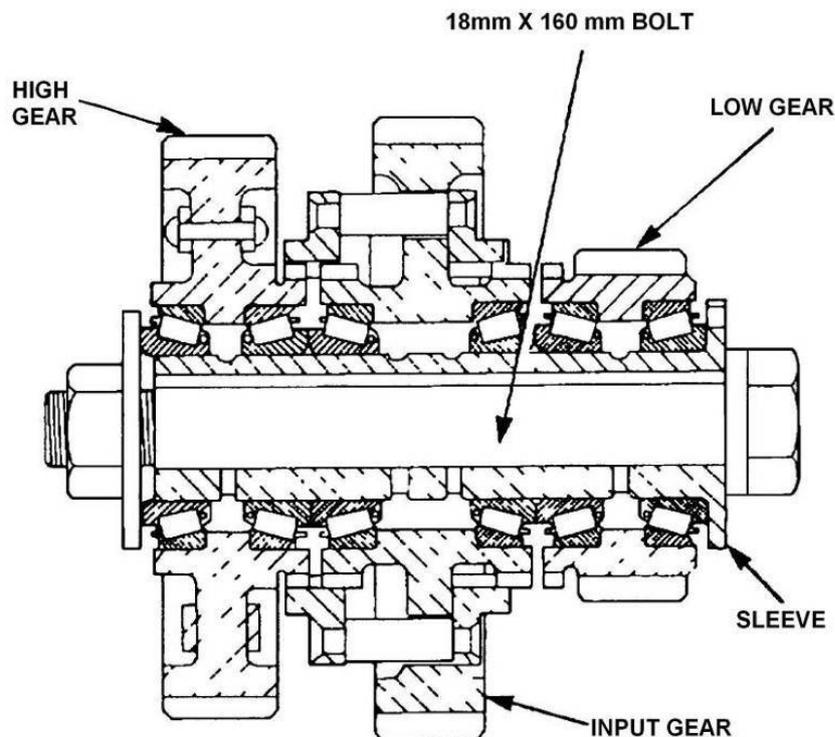

Figure 213 Intermediate Gear Assembly Pre-load Adjustment - Sectional View
- h. Using a suitable press, install the bearing cups in the intermediate gears. Thoroughly lubricate the gears and taper roller bearings with clean oil and install the gears and bearings on the sleeve. Do not fit the shim washer at this stage. Using an 18 mm bolt and large flat washers (Figure 213), gradually tighten the nut to 130 N.m (96 lbf.ft) while rotating and tapping the gears.